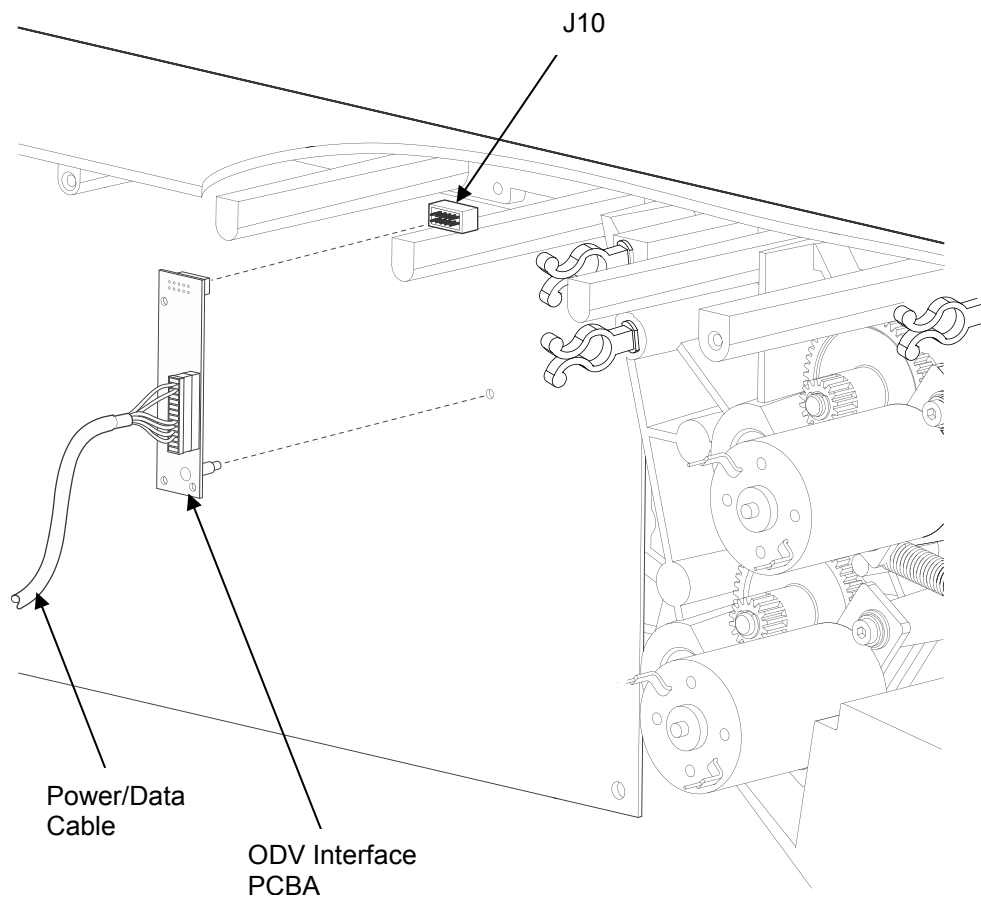

Figure 17 Connecting the ODV PBCA and Controller (T8)
17. Plug the P10 connector end of the power/data cable into the J10 receptacle on the ODV Interface board. See Figure 17 on page 28.